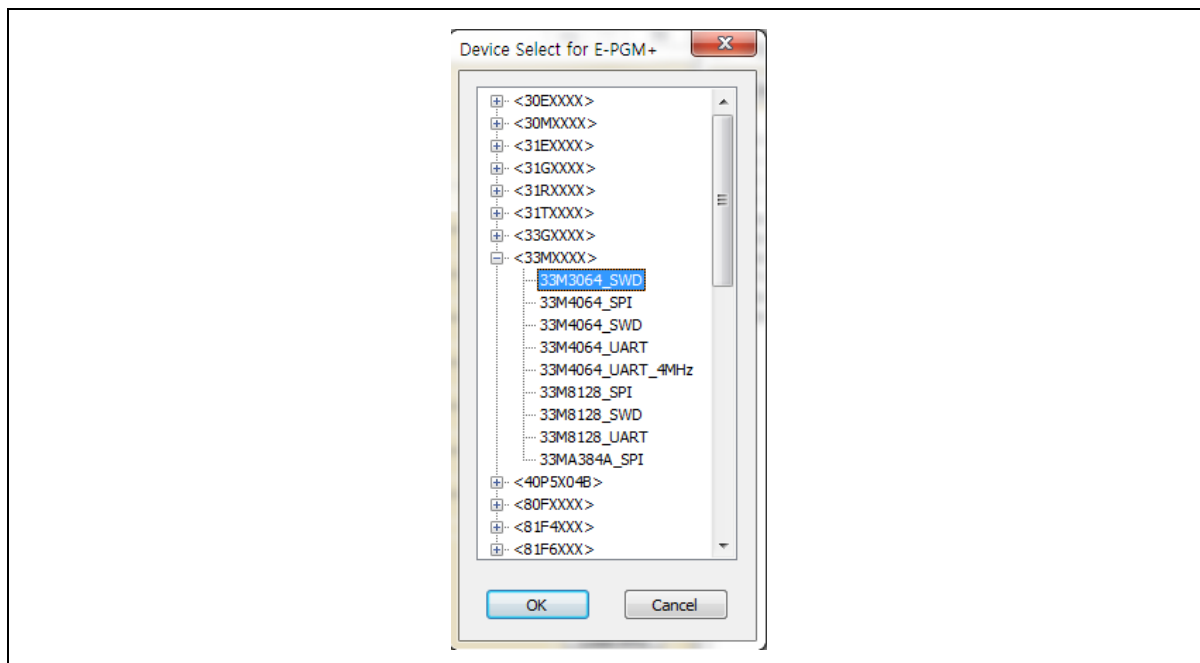

Figure 26. Device Select
- ⑤ The 'Address Range' shows the start and end addresses of ROM when a device is selected. These values are fixed, and cannot be modified by users.
- ⑥ This area displays the checksum. When a hex file is loaded using the 'Load Hex' button, checksum is calculated for data in the hex file to check for errors that may have occurred in the loading process. Checksum is an important element that must be checked in the programming process.
- ⑦ The 'Option' section shows the hexadecimal value of a selected option. Option values must also be checked in the programming process.
- ⑧ The 'Device Select' button is the first button to press after starting programming. When this button is pressed, the list of device categories is displayed as shown in Figure 26. Click + or – to see the specific devices under each category, and select the desired device.